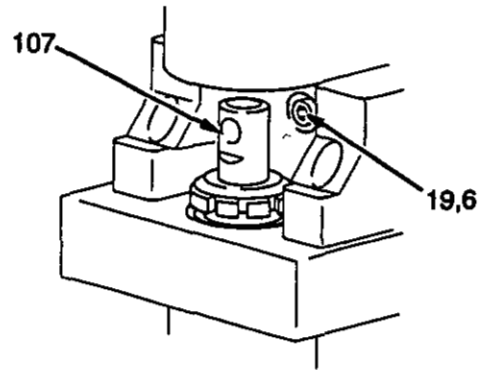

Fig 26
1. Remove the drive housing (11). See Steps 1 to 5, page 26.
2. Rotate the blades of the motor fan to raise the crank (12). Turn the displacement pump rod (107) so the pin hole aligns with the bottom screw (19), which gives access to that screw. See Fig 26.
3. Remove the three drive housing screws (19) and two motor screws (5) and their lockwashers (6).
4. Tap the lower rear of the drive housing (11) with a plastic mallet to loosen the motor. Pull the drive housing straight off the motor while guiding the harness (A) from the motor.